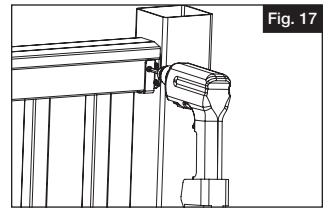

Fig. 17
- b. Using a  $\frac{5}{32}$ " drill bit, predrill the top rail in the two locations on the metal bracket. Install #10 x1" screws in pre drilled holes of each of the metal brackets (Fig 17).